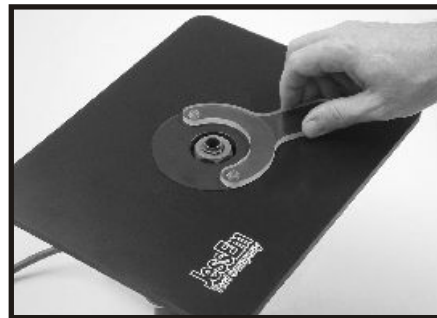

FIG. 5
1. Place the insert ring into the centerhole of the Lift's top plate (Fig. 5).